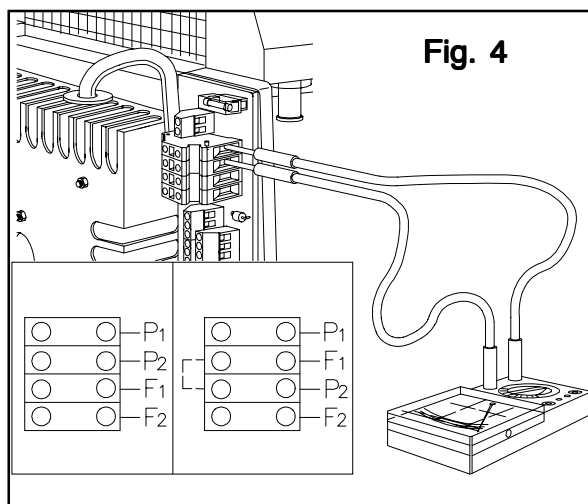

Fig. 4
- Disconnect from the terminal board, the wires coming from the stator, marked by the letters  $P_1 F_1$   $P_2 F_2$  (Fig. 4).